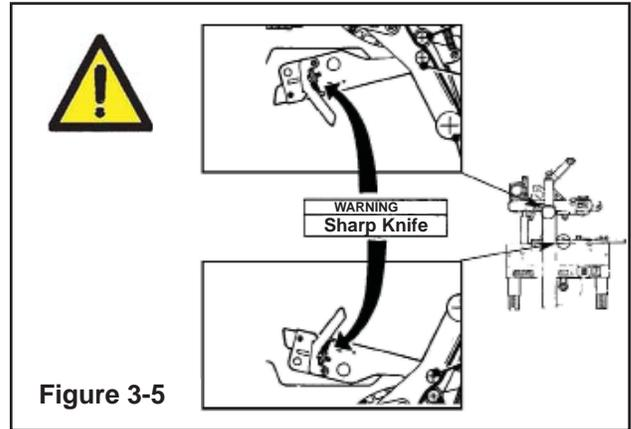

Figure 3-5
- **Important :** Never remove the safety device which covers the blade on the taping unit. Any error may cause serious injuries (Figure 3-5).